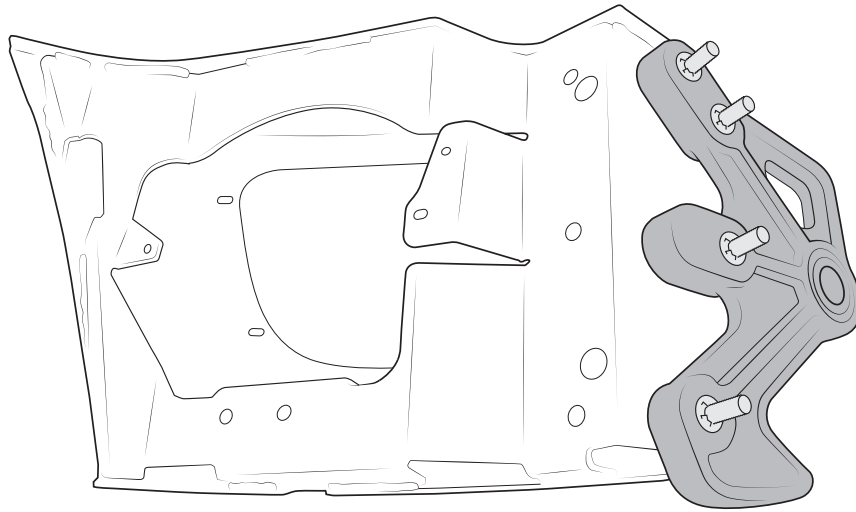

Figure 19
1. Assemble the tow loops and bumper corners with M12 x 70 carriage bolts and push nuts as shown (fig. 19). **NOTE: Start ALL of the bolts through the corner and tow loop before putting the push nuts on.**